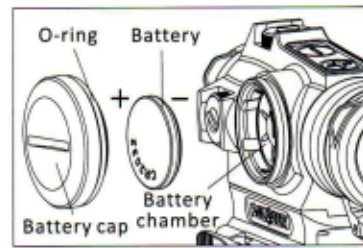

Fig3-2
Battery Installation(Fig3-2):
- 2) Insert the battery into the battery chamber with the right marked polarities "+", "-", See Fig3-2, Take the waste battery out for replacement.